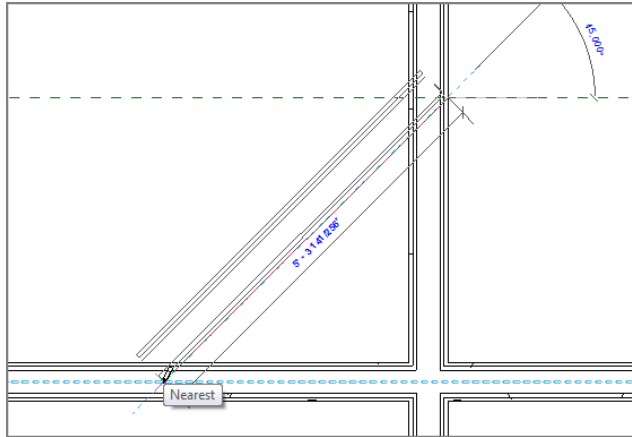

FIGURE 2.42: Adding the 45° wall
3. Pick the intersection of the reference plane and the inside finished face (right face) of the left, vertical corridor wall (see Figure 2.42).
5. At a 45° angle, pick the endpoint at a location within the horizontal, top corridor wall. When you're finished, press the Esc key twice. You may have to press the spacebar to get your wall flipped in the proper direction, as shown in Figure 2.42.